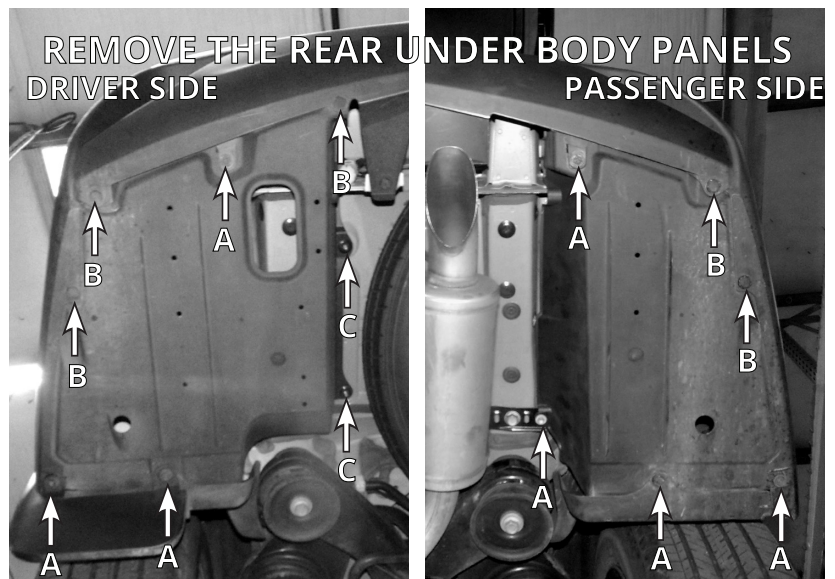

FIGURE A2: VIEW UNDER THE REAR OF THE VEHICLE
2. Under the rear corners of the vehicle, locate the two under body panels, shown in Figure A2. Using the tools listed below remove the panels.